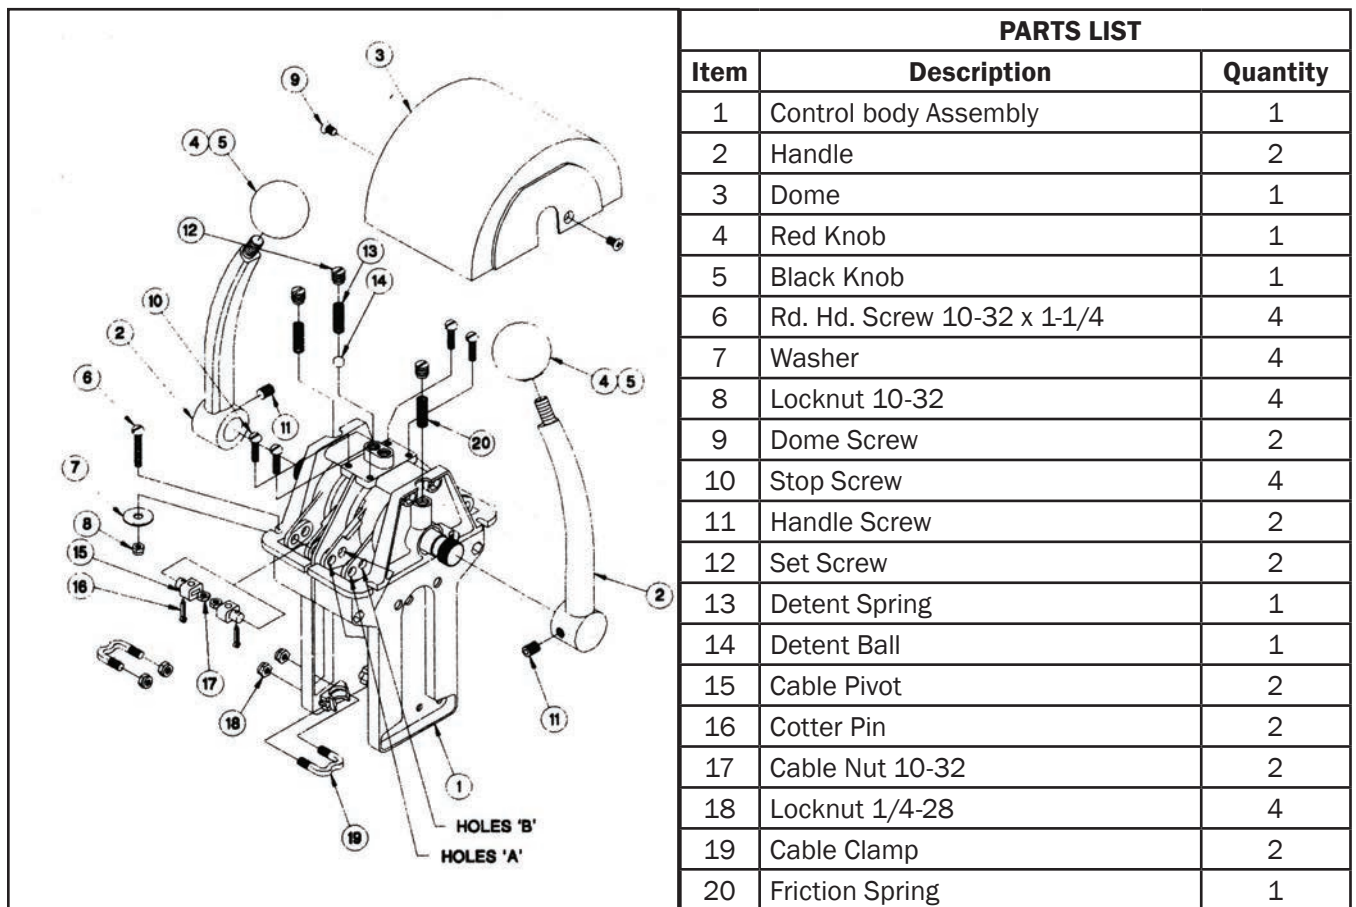

Figure 2.
STEP 2. A Detent kit is provided with each control for use on the shift lever. See Figure 2. For single engine use, install as shown. For twin engine use, install detent kits from both controls into the control which will have both shift levers. In two station systems, detents are used in the lower controls only. **DO NOT INSTALL DETENTS IN UPPER STATION OF TWO STATION SYSTEMS.**
STEP 3. Determine if the cables should be push or pull to open the throttle and whether push or pull to select forward gear. Cables attach in hole marked "A" in Figure 2 to the front of the control arms for push operation or to the rear of the control arms for pull operation.
STEP 4. Place the cables in the cable retainers and secure in place with "U" bolts (19) and nuts (18) ensuring that the "U" bolt is fitted into the proper groove in the cable.
STEP 5. Each handle operates two levers. The outer lever, colored black, provides the anti-creepback feature and is used for throttle only. The inner lever, colored yellow, is direct drive and is used for gearshift. Place pivots (15) into the hole marked "A" of the appropriate lever, and retain the place with cotter pins (16). Refer to Figure 2.
STEP 7. Fasten the control in position in the cut-out, using screws (6), washers (7), and nuts (8). Refer to Figure 2.
Install both controls as described in steps 1 through 7, including cables from upper control to lower control. DO NOT connect cables from upper control to lower control at this time. Connect cables to engine as described in instructions for single station installations and make all necessary adjustments. Connect cables from upper control to holes marked "B", ON YELLOW ARM, in Figure 2. Make any adjustments at this point. DO NOT ADJUST LOWER CONTROL TO SUIT UPPER CONTROL.